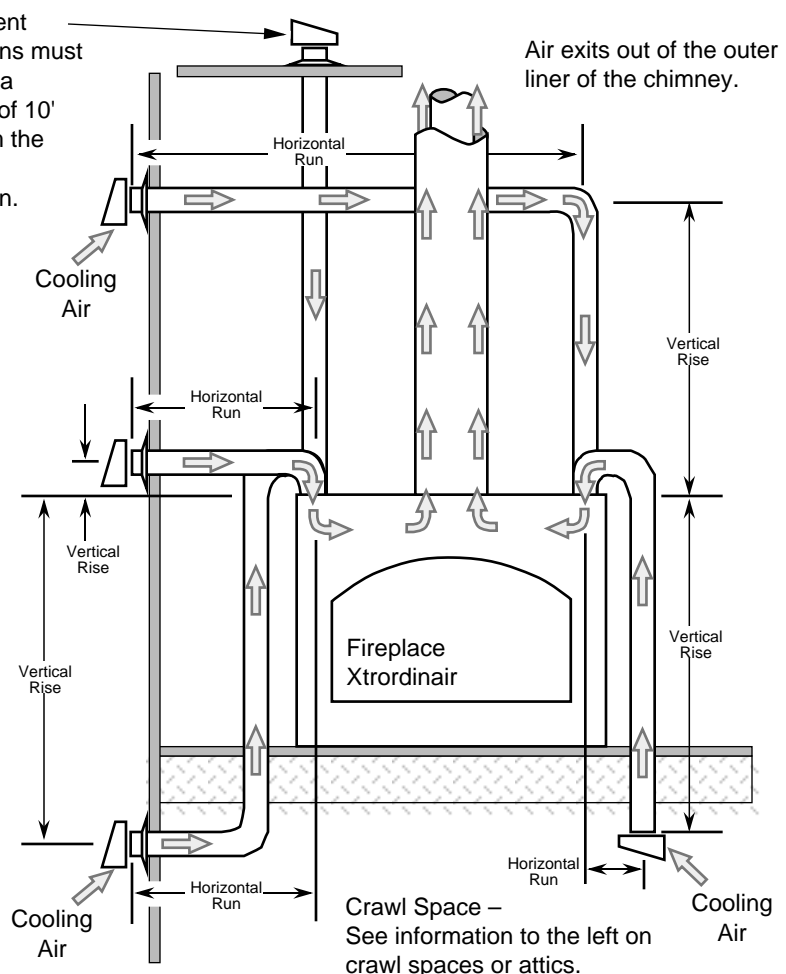

Figure 13
- A maximum of two 90° bends may be used on each vent. However, if a 180° bend is placed directly above the starter collar, one additional 90° bend may be used (see Figure 13).